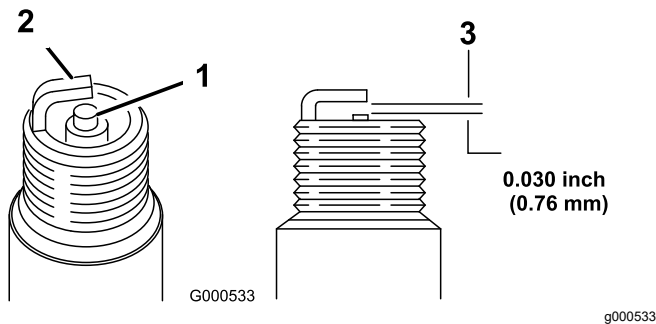

Figure 21
5. Set the gap on the plug to 0.76 mm (0.030 inch) (Figure 21).